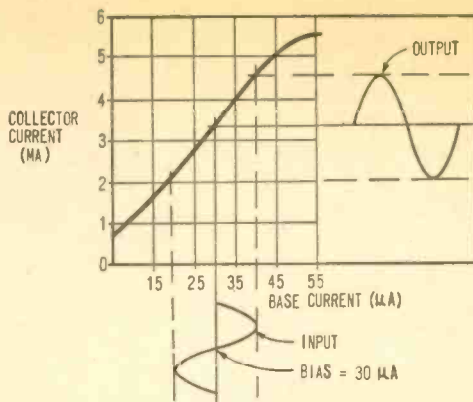

Fig. 6. Curve above reveals how input signal adds and subtracts from bias current of 30 μ a. Note how bias point falls in center of linear portion of curve.
6 volts corresponding to the collector-emitter voltage given earlier in the spec sheet. To make 30 microamperes flow through the base-emitter circuit a resistor is tied from the base to the negative side of the supply. This places the bias resistor across the full 12-volt supply. (The lower end of the resistor sees the positive terminal of the supply through the emitter.) Next, it is a matter of Ohm's Law to find the resistance value. Dividing supply voltage (12) by desired current (30 μ a) yields a resistor requirement of approximately 400 K. Now if a signal is applied to the base, it will swing bias current within a region which provides relatively undistorted amplification. This is apparent from the curve plotted in Fig. 6.